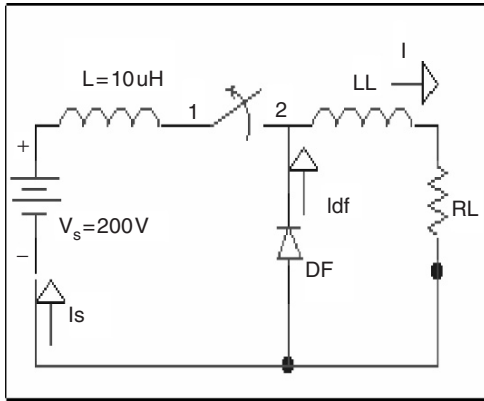

FIGURE 2.9 A simple switch mode power supply with freewheeling diode.
Figure 2.9 shows a simple switch mode power supply. The switch (1-2) is closed at $t=0$ s. When the switch is open, a freewheeling current $I_F = 20$ A flows through the load (RL), freewheeling diode (DF), and the large load circuit inductance (LL). The diode reverse recovery current is 20 A and it then decays to zero at the rate of 10 A/ μ s. The load is rated at 10 Ω and the forward on-state voltage drop is neglected.